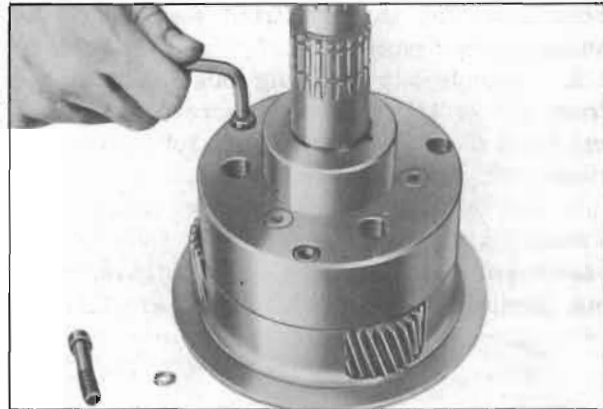

Figure 4-123—Removing Planet Carrier Screws
1. Remove three planet carrier screws and special lock washers, using a $\frac{7}{32}$ " hexagon (Allen) wrench. See figure 4-123. A used universal joint front yoke may be placed on output shaft and held with a bar while loosening the screws.